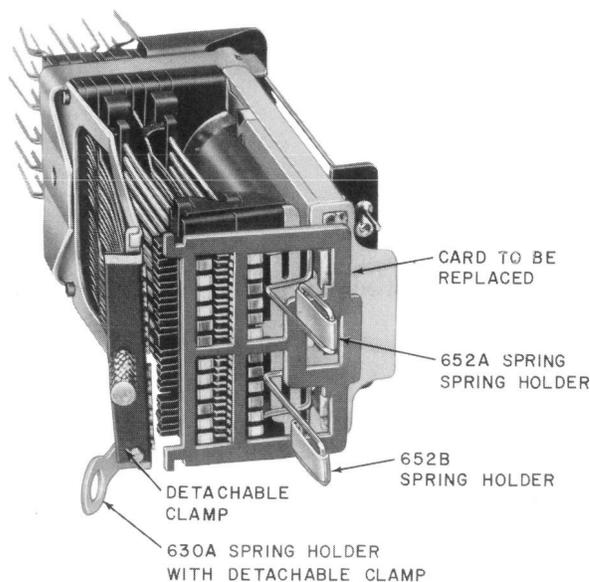

Fig. 34—24-Position Relay—Card Removal Tools Mounted in Place
4.39 Positions 13 Through 24: Pry the card to be replaced from its position on the armature with the KS-6320 orange stick, placing one end of the orange stick over the center leg of the armature and under the adjacent edge of the card. Tilt the card outward so that it can be moved over the ends of the armature legs. With one hand, push the card to the left. With the other hand, insert the straight end of the 652A spring holder in positions 19 through 24 (upper six positions in the right row of contacts). Position this end of the tool against the movable contact springs behind the card. Swing the holder to the right, and wedge the square-formed section of it against the top leg of the armature as shown in Fig. 34. Position the 652B spring holder against the movable springs in positions 13 through 18 following the same procedure.
4.40 Positions 1 Through 12: Insert the 630A spring holder without the clamp between the contact springs in positions 1 through 12 as follows. With the right hand, push the card to the left to open the gap between the fixed and movable contacts sufficiently to permit insertion of the spring holder. With the other hand, insert the spring holder through this gap and turn the handle to the left. Release the card. Position the spring holder so that the larger projection is centered between positions 6 and 7 on the relay and the pairs of twin make springs are engaged by the proper notches in the holder. Next, hold the clamp associated with the spring holder by its handle with the notch at the bottom. Place the metal loop at the top of the clamp on the end of the spring holder that extends above the make-contact springs. Move the clamp downward so that the notch in the bottom of the clamp engages the pin located adjacent to the handle on the spring holder. The clamp will hold the contact springs in their proper notches on the spring holder. (See Fig. 34.)
- (a) Insert the straight end of the 652A spring holder behind the movable contacts in positions 19 through 24 (upper six positions in the right row of contacts) from above. Swing the holder to the right, and wedge the square-formed section of it against the top leg of the armature as shown in Fig. 34. Similarly, position the 652B spring holder behind the movable springs in positions 13 through 18 from below.